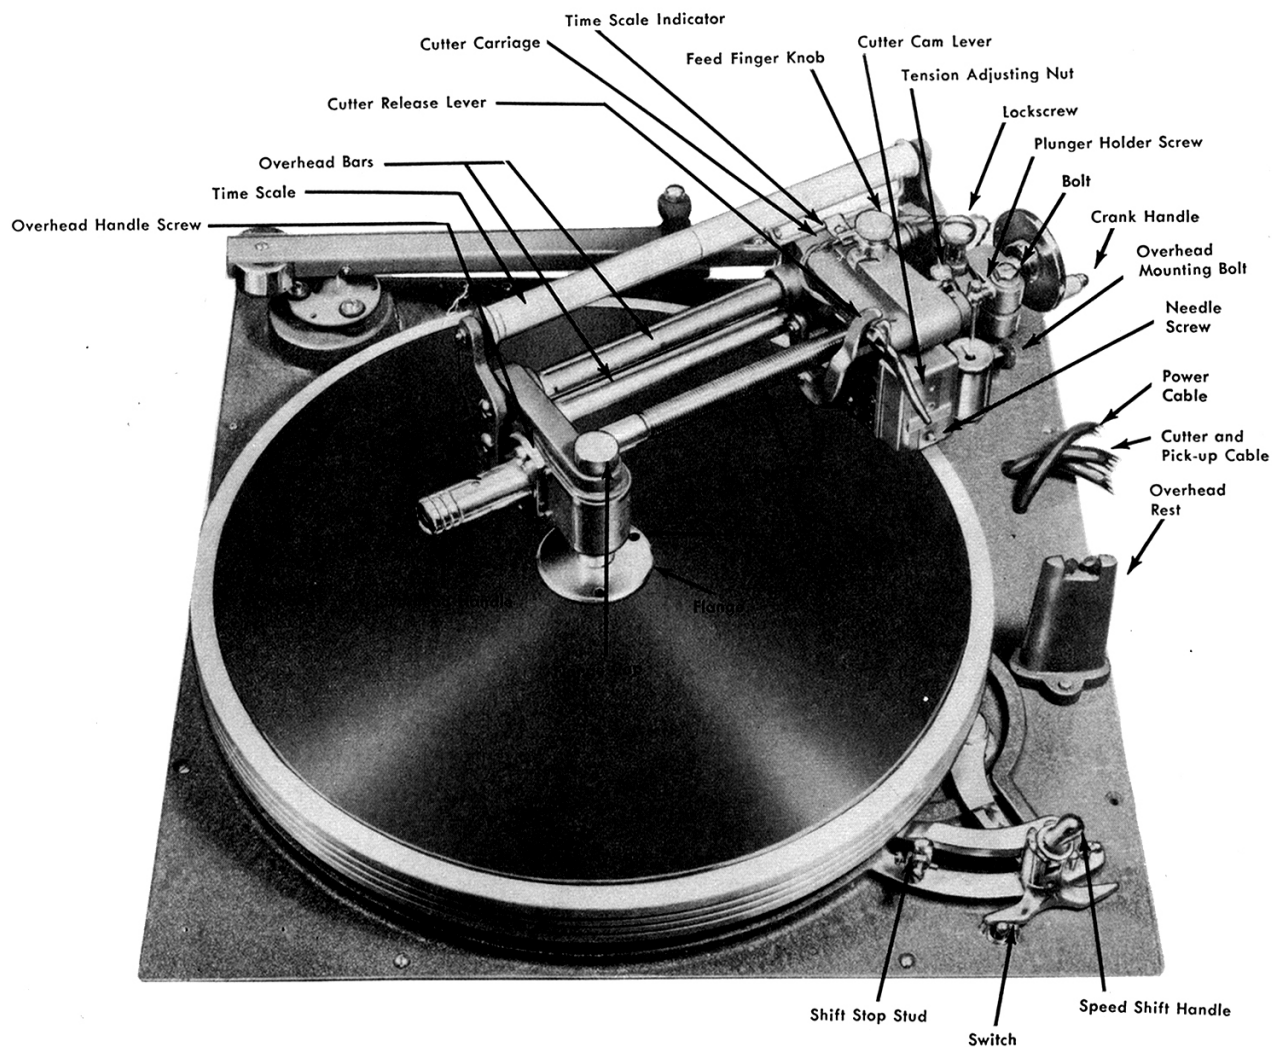

Figure 4. Close-up of the 6N Turntable
4. **Feed Screw (fig. 4):** Standard feed screws are available for cutting inside-out or outside-in at 96, 112, 120 or 136 lines per inch. A microgroove feed screw is available to cut outside-in at 224 lines per inch. To change the feed screw, disengage the cutter carriage (see feed-finger knob above) and loosen the lock screw (fig. 4). Hold the feed screw and pull out on the crank, thus disengaging it from
5. **Time Scale Assembly (fig. 4):** The time scale assembly is an attachment for reading the elapsed recording time at both 78 and 33-1/3 rpm. The red portion of the time scale assembly is used with recordings at 33-1/3 rpm and the black portion with recordings at 78 rpm. To read the time scales, proceed as follows:
- c. The time scale indicator (fig. 4) has two pointers. Use the pointer at the right (towards the crank handle) for reading the 33-1/3 rpm scale, the pointer at the left for reading the 78 rpm scale.
2. **45 rpm:** Raise the turntable and locate the angle bracket near the turntable well. Raise this bracket and remove the 45 rpm adapter sleeve underneath it. Place the sleeve on the motor pulley and rotate it until it engages the locking pin on the pulley. Remove the upper stop screw on the 33-1/3 rpm shift stop stud (fig. 4) from the rest position and place it in the hole parallel to the 33-1/3 stop screw. The head of the 45 rpm stop screw should, however, point towards the shift stop handle. (On playback, place the 45 rpm adapter disk (included with the accessories) on the center of the turntable. Raise the shift handle to a vertical position and move it to the left (towards the 33-1/3 rpm position) until it meets the upper stop screw.